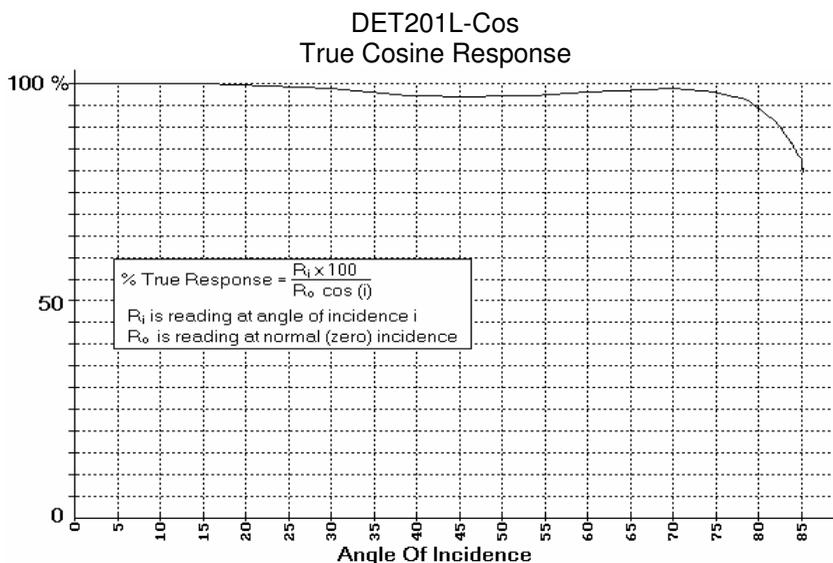

Figure 2
- Angular Response: Accurately cosine-corrected to Lambert's Cosine Law. Maximum error is less than $\pm 5\%$ from true response to 70° from normal incidence, reference Figure 2.